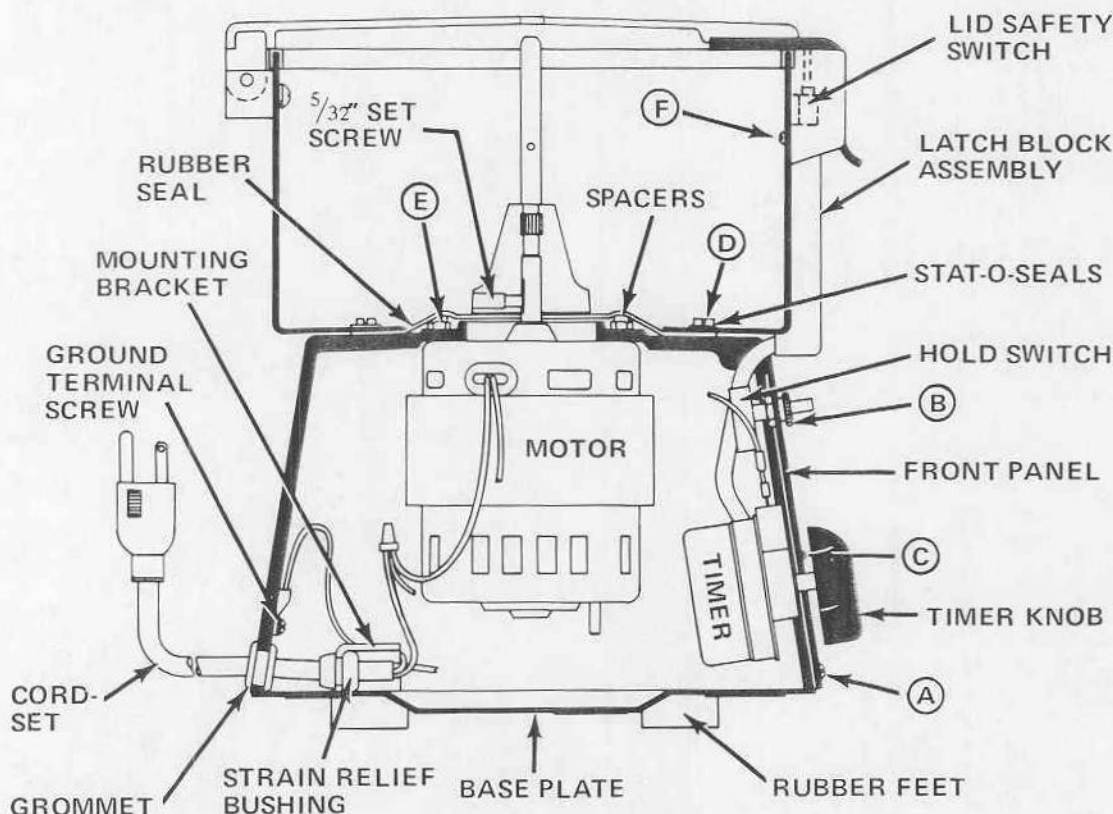
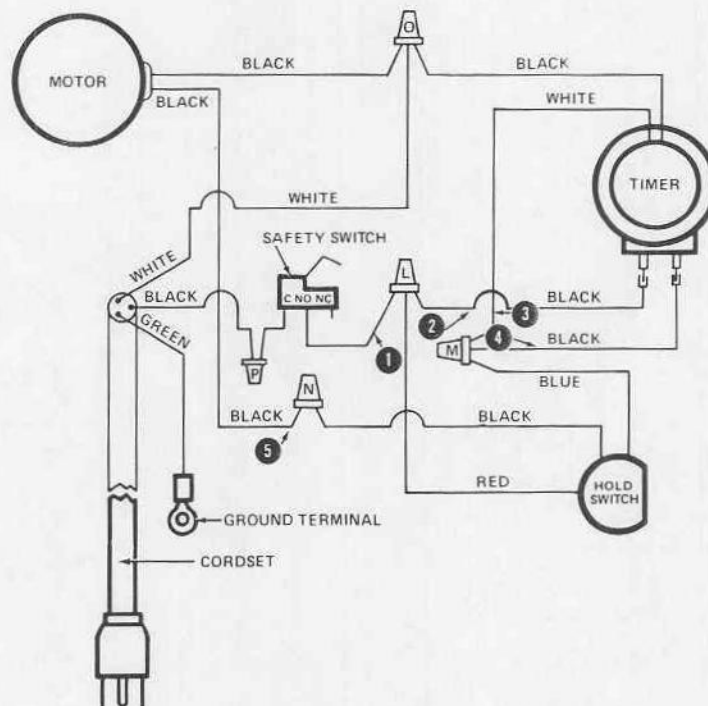

Figure 10. Cutaway View of SERO-FUGE Centrifuge.
Figure 11. SERO-FUGE Centrifuge Wiring Diagram.
1. Referring to Figure 10, turn the centrifuge over and remove the four rubber feet and base plate.
- (c) Referring to the Wiring Diagram in Figure 11, cut wire splice (L) that terminates the red Hold Switch wire; strip $\frac{3}{8}$ -inch insulation from Safety
- Switch wire (1) and Timer Switch wire (2).
- (e) Cut off the crimp wire splice (M) that terminates the blue Hold Switch lead; strip $\frac{3}{8}$ -inch insulation from white Timer Motor wire (3) and the Timer Switch wire (4).
- (g) Remove and replace the crimp (N) connecting the black Hold Switch wire to the black Motor wire (5), using a wire splice or by covering with electrical tape.
- (a) Referring to Figure 10, remove the Timer Knob by unscrewing the recessed set screw and two Timer mounting screws "C".
- (c) Referring to Figure 11, remove the two Timer Switch wires from their terminals on the old timer and transfer to terminals of new Timer.
- (d) Cut off the crimp wire nut (M) that terminates the black Timer Motor wire; strip $\frac{3}{8}$ -inch insulation from the black Timer Switch wire (4) and the blue Hold Switch wire. Crimp these two wires to the new white Timer Motor wire, using a wire splice or by covering with electrical tape.
- (e) Cut off the crimp wire nut (O) that terminates the black Timer Motor wire; strip $\frac{3}{8}$ -inch insulation from the white Cordset wire and black Motor wire. Crimp these two wires to the new black Timer Motor wire, using a wire splice or by covering with electrical tape.
2. Referring to Figure 10, remove the six screws (D) and Stat-O-Seals holding the guard assembly, and lift guard assembly aside. NOTE: The Safety Switch wires should remain connected.
3. Remove the Drive Spindle by loosening the set screw. Lift off rubber seal and rubber spacers over the four nuts (E); remove nuts.
5. Referring to Figure 11, cut off crimp wire splice (N) joining the black Motor wire to the black Hold Switch wire. Strip $\frac{3}{8}$ -inch insulation from the Hold Switch wire and crimp to the new Motor wire, using a wire splice or by covering with electrical tape.
6. Cut off the crimp wire splice (O) joining the white Cordset wire, Motor wire and Timer Motor wire. Strip $\frac{3}{8}$ -inch insulation from wires and crimp to new Motor wire, using a wire splice or by covering with electrical tape.
7. Turn centrifuge over and replace the four nuts (E) holding the motor. Replace the spacers, rubber seal, guard bowl, Stat-O-Seals, guard bowl screws, and spindle. NOTE: Align the spindle set screw with the shaft-flat before tightening. Reassemble guard.
2. Referring to Figure 11, cut the crimp wire connectors (O) and (P) terminating the black and white Cordset wires and remove the terminal screw holding the green grounding wire. Pull the cord out of the centrifuge.
3. Slip a new Rubber Grommet on the new line cord. Referring to Figure 10, press the Strain Relief Bushing in the slot of the Mounting Bracket.
1. Referring to Figure 10, remove the four screws (F) which secure the Latch Block Assembly to the guard bowl.
3. Referring to Figure 11, cut old Safety Switch leads at wire splices (L) and (P). Remove old Safety Switch.
5. Crimp one lead of new Safety Switch to the black Cordset wire; crimp other lead to red Hold Switch wire and black Timer wire (2), using a wire splice or by covering with electrical tape.